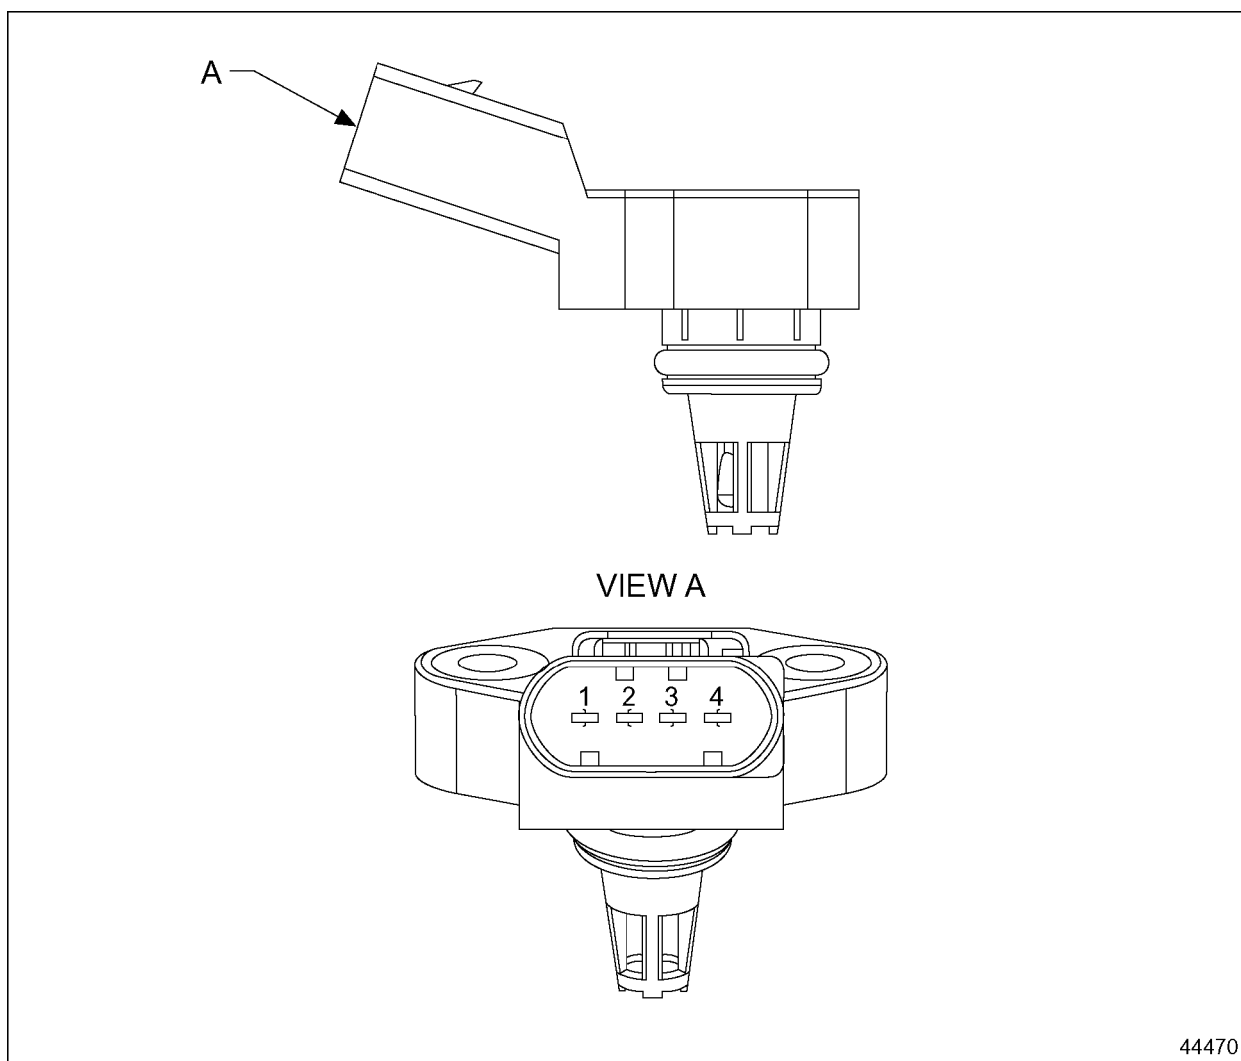

Figure 10-1 Turbo Boost Air Combination Sensor
Intake air temperature is monitored by the turbo boost air combination sensor installed in the intake manifold. See Figure 10-1.
1. With boost air combination sensor connected, check for additional active fault codes. See Figure 10-1.
- 2. Measure the voltage at pin 2 of the combination sensor. See Figure 10-1.
- 3. Bridge pins 1 and 2 of the combination sensor. See Figure 10-1.
4. Bridge pins 1 and 2 of the combination sensor on the plug side. See Figure 10-1.
5. With combination sensor connected, measure the voltage at pin 1 of the sensor. See Figure 10-1.
2. Measure the resistance between pin 2 of the combination sensor and vehicle ground. See Figure 10-1.